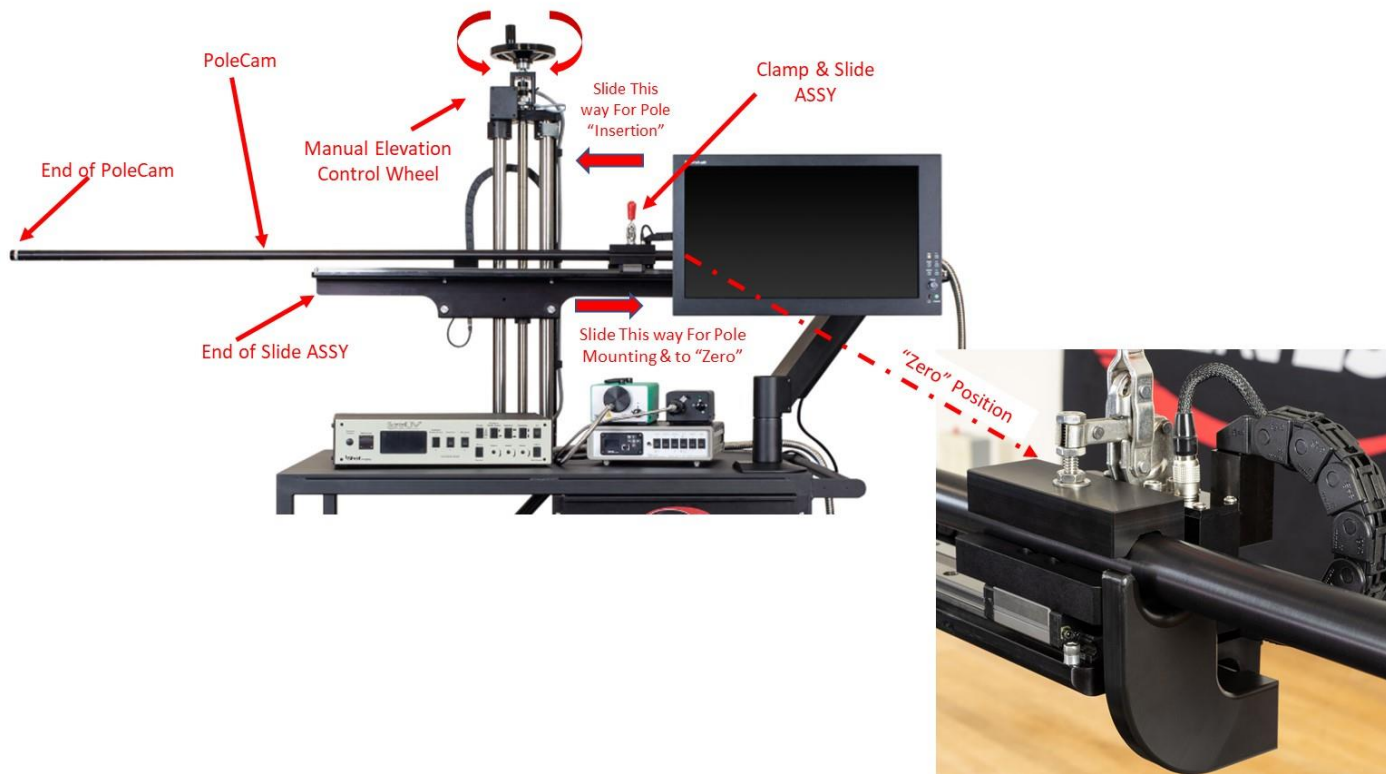

Figure 13 PoleCam Installation
- Install PoleCam on Elevation / Insertion Slide See Figure 13